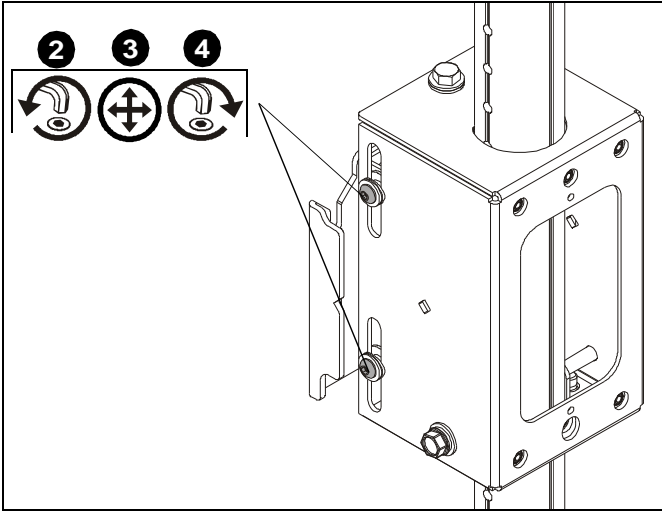

Figure 14
1. If necessary, make height adjustments to the bottom rail by using adjustment points on the array heads (U). (See Figure 14)
2. While holding mounting rail, loosen button head screws on sides of array heads (U).
4. Tighten button head screws on sides of array heads (U).
13. If necessary, make height adjustments to the next higher mounting rail by using adjustment points on the array heads (U). (See Figure 14)